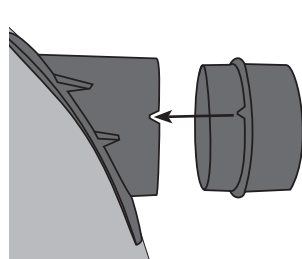

figure 20
5. Put the other adaptor provided in the air intake and, making sure that the tabs are aligned with the notches, push it in completely (**figure 20**).